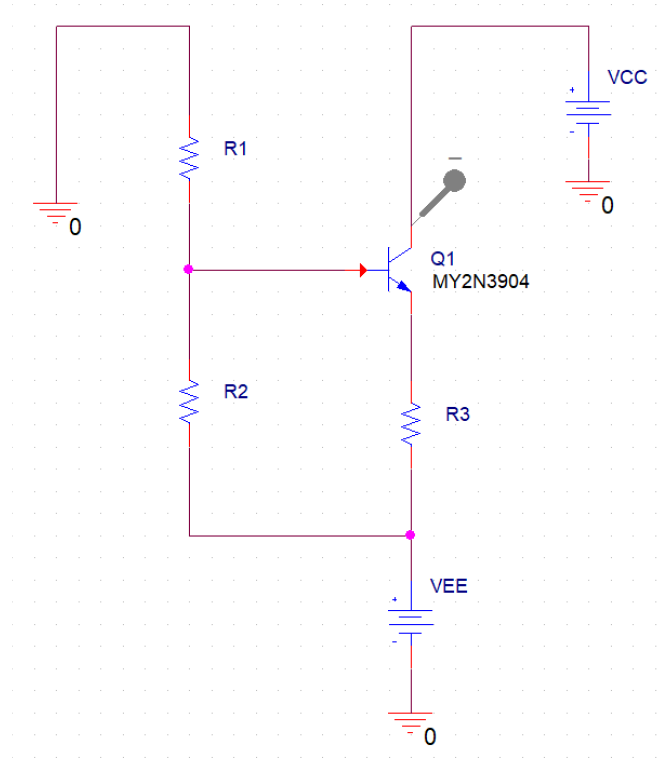

Fig. 6 Constant current sink using an NPN-BJT 2N3904
3.1 In PSpice, construct a current sink as shown in Fig. 6 and load the SPICE 3 model parameters for Q1 following the same procedure as in Step 1.1.
To avoid the change in I_B , we connect R_3 to the emitter of the BJT, as shown in Fig. 6, to work as a feedback resistor. For example, if $|V_{EE}|$ reduces, which causes I_B to be smaller than the designed value, the resulting I_E will produce a smaller voltage drop across R_3 and reduce V_E at the emitter terminal of Q_1 . This reduced V_E will increase the V_{BE} of Q_1 and, therefore, I_B .
Fig. 7 The equivalent circuit for the constant current sink in Fig. 6 with R_1 , R_2 , and power supply replaced by its Thevenin equivalent circuit V_{BB} and R_{BB} .
Q7. (15 Points) Inserting the feedback R_3 at the emitter of the BJT not only stabilizes the I_B but also improves (or increases) the output resistance R_o of the current sink shown in Fig. 6/Fig. 7 (i.e., I_o is
Q10. (10 Points) When designing the constant current sink shown in Fig. 6, we assume that $|V_{CE}| \geq 0.3V$ and Q_1 works in the active region. Based on the resistance values obtained in Q9, sweep V_{CC} in Fig. 6 from -5 V to +5 V with a 0.05 V step and measure V_E and I_C to determine the $|V_{CE}|$ required for Q_1 to work in the active region.